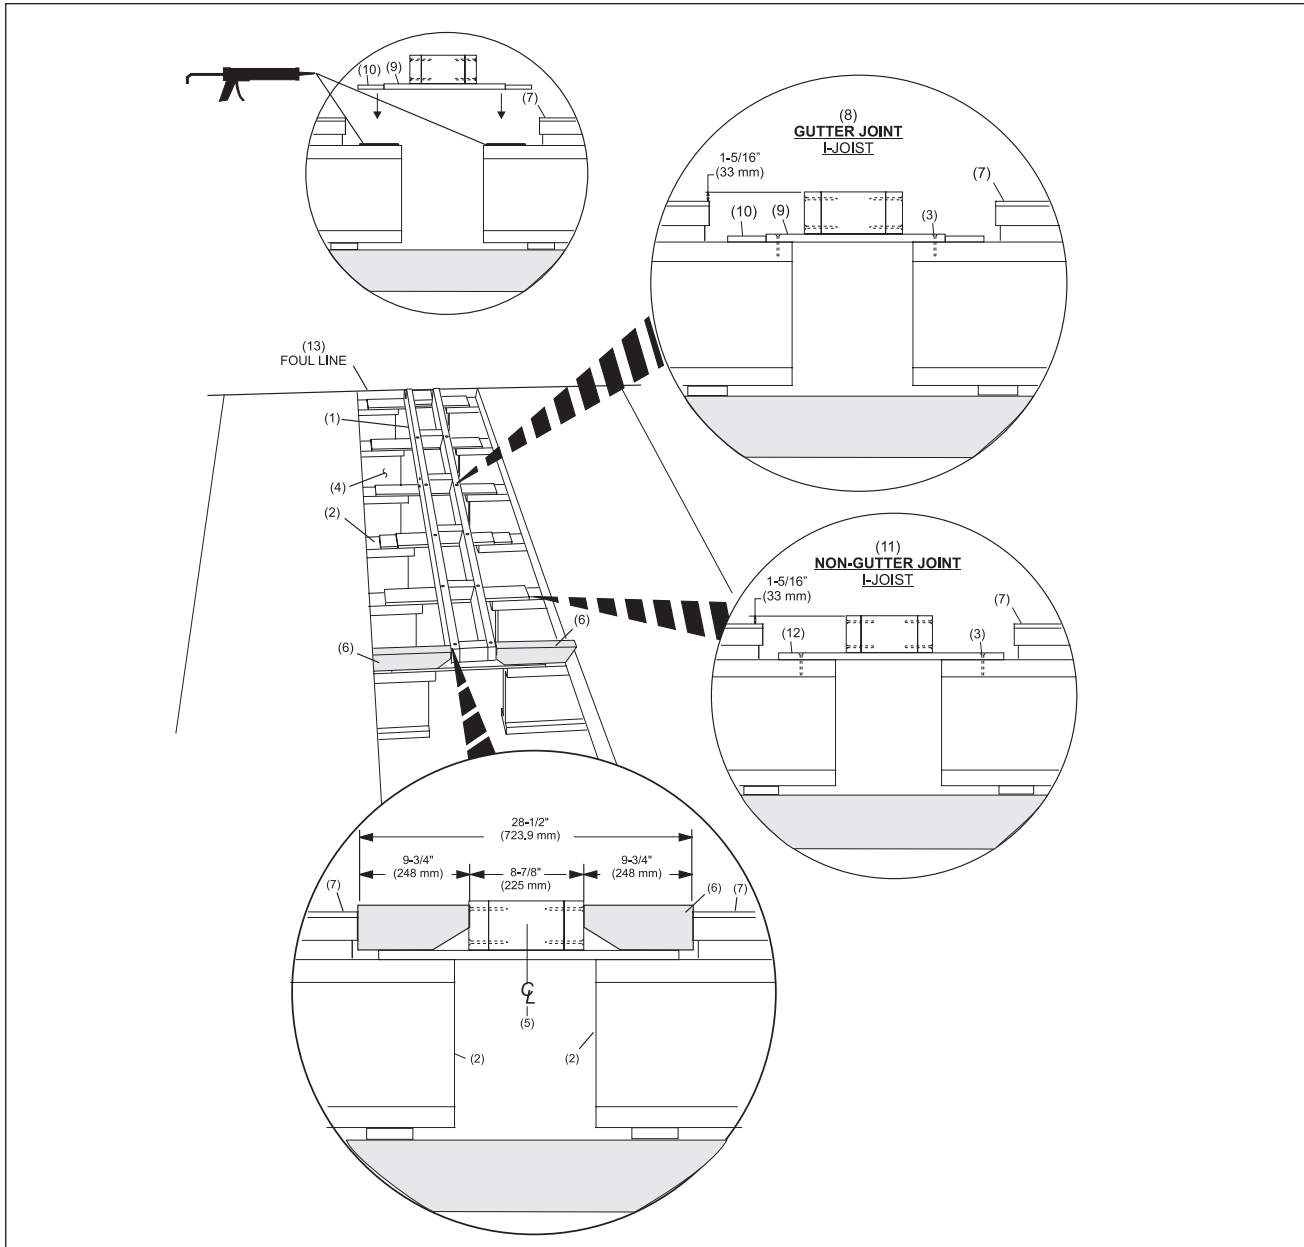

Figure 9. Secure Ball Return Frames to Foundation
1. Cut centering blocks to dimensions shown in *Figure 9*. Creating a 45° chamfer (*Figure 9*) allows for easy removal of blocks after frames are assembled.
2. Butt notched end of the 176-3/8" (4480 mm) approach end frame assembly against the foul line. Refer to *Figures 9 and 10*.
***NOTE:** Making centering blocks as shown in Figure 9 makes centering the frames easier.*